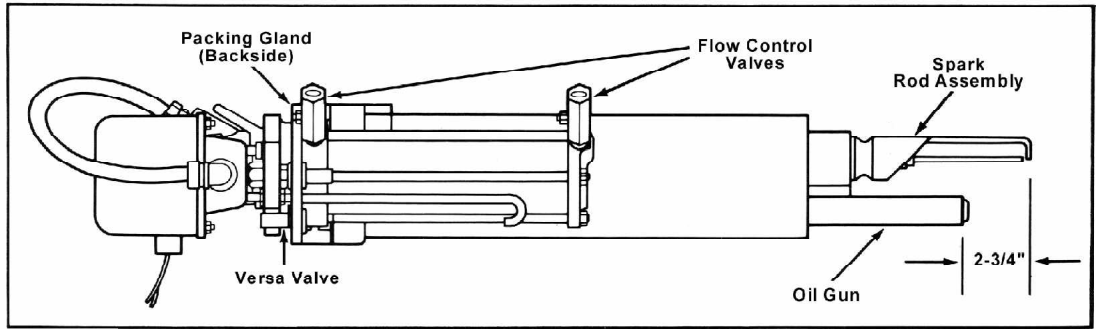

Figure 4 Oil fired lighter
B. Check for the following: 1. Insufficient air pressure to air cylinder. 2. Mechanical binding of oil lighter. 3. Broken or worn actuating cylinder cups, seals or rings. 4. Malfunctioning lighter controls. 5. Flow control valves throttled excessively.	1. Adjust air pressure to 100 psig. 2. Identify location and correct. 3. Replace actuating cylinder cups, seals or rings. 4. Locate problem and correct. 5. Adjust flow control valves. See Figure 4.
B. Improper spark tip to sprayer plate dimension.	Adjust gun to approximately 2 3/4" behind the lighter electrode. See Figure 4.